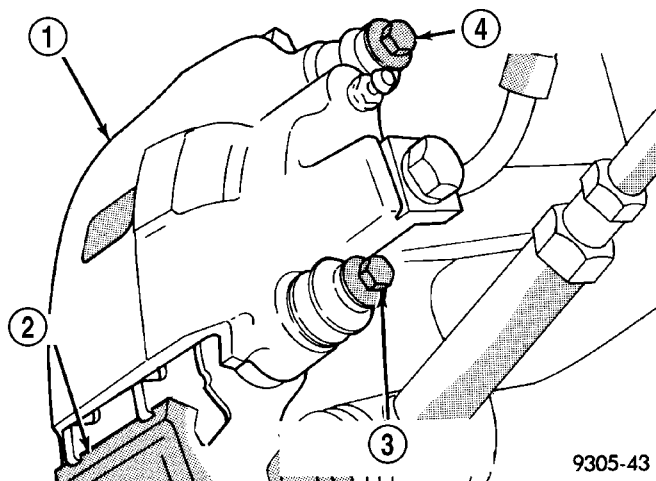

Fig. 40 Removing Caliper Guide Pin Bolts
(1) Raise vehicle on jackstands or centered on a hoist. See Hoisting in the Lubrication and Maintenance section of this manual.
(2) Remove rear wheel and tire assemblies from vehicle.
(3) Remove the 2 caliper assembly to adapter guide pin bolts (Fig. 40).